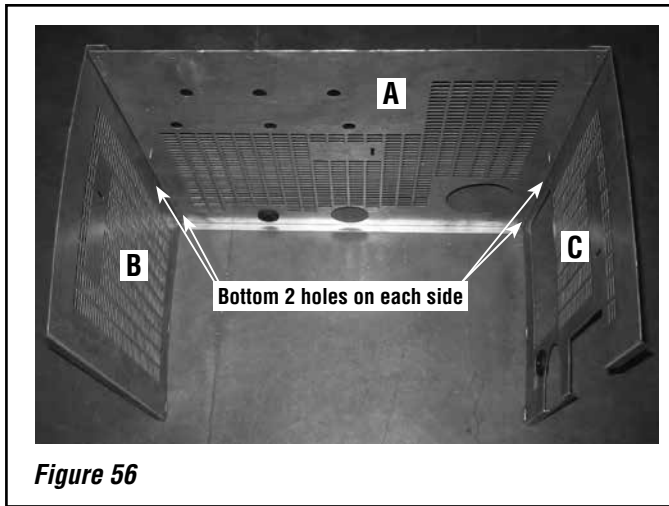

Figure 56
3. Assemble the perimeter (see *Figure 56*) - Using only the bottom 2 holes on each side, screw the left side panel (B) and the right side panel (C) to the back panel (A).